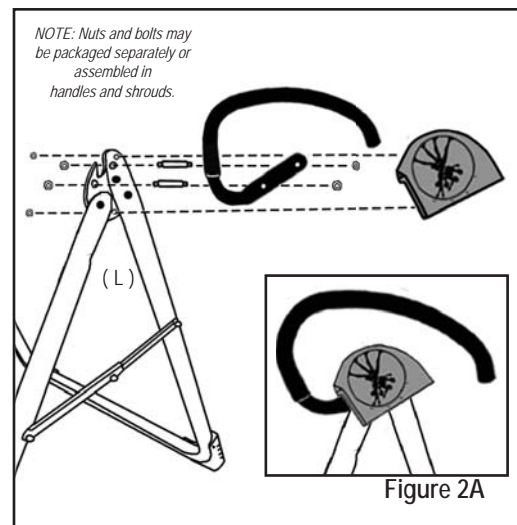

Figure 2
- Insert two double threaded bolts (GL-9523) through the base of the Left Handle (marked with an "L") and hand tighten on the outside with the nuts provided. (See Figure 2) Line up and insert the opposite end of the bolts through the corresponding 1/3" holes on the outside of the hinge plate. Loosely tighten with nuts, then use the wrenches provided to tighten both sets of nuts, being careful not to over tighten. Repeat with the Right Handle.
- Place each shroud over the outside edge of the corresponding handle. Line up and insert the shroud bolts (GL-9525) through the smaller 1/4" holes in the hinge plate (See Figure 2). Use the wrenches provided to tighten the nuts, being careful not to over tighten.